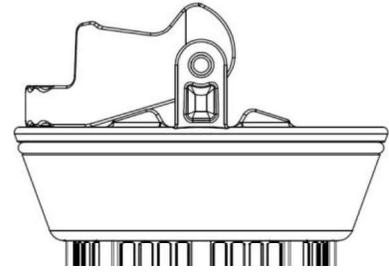

Fig. 7: Handle in "unlocked" position (side view)
- 2.2.1.2 Place basket on a level surface (basket will stand on its own), lay handle against basket ring in the “unlocked” position. (See fig. 7.)
2.5.1.5 After removing basket from body, place basket on a level surface (basket will stand on its own), lay handle against basket ring in the "unlocked" position. (See fig. 7.)